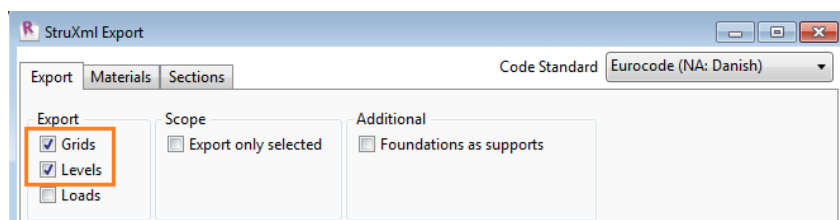

Figure 3-16
- If the option to *Export Grids* (Figure 3-16) is selected, all the grids will be exported to FEM-Design.
- If the option to *Export Levels* is selected (Figure 3-16), all the levels will be exported to FEM-Design.